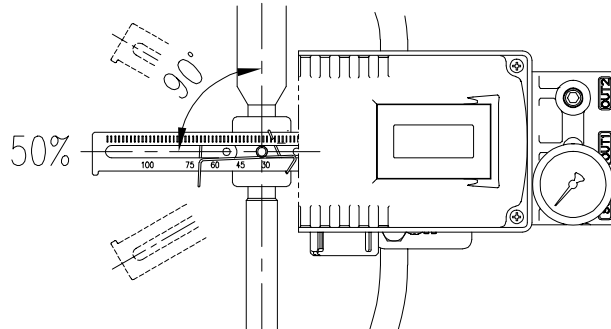

Fig. 3-11: YT-3300L / 3350L Feedback lever and valve stem
- 7) Check if feedback lever is vertical to the valve stem at 50 % of the valve stroke. If it is not vertical, adjust the adapter holder on the actuator’s stem to make vertical – **DO NOT TIGHTEN THE ADAPTER HOLDER COMPLETELY.** Improper installation may cause poor linearity. Refer to Fig 3-11.